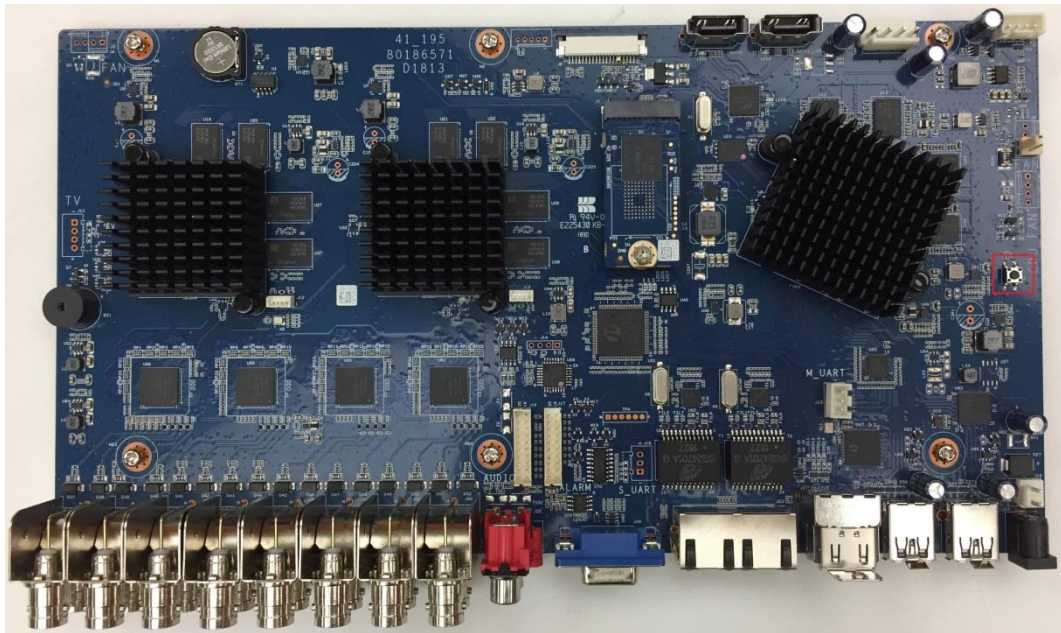

Figure 5-14
Step 3 Press and hold the reset button for 5 seconds to 10 seconds. See Figure 5-14 for the location of the reset button.